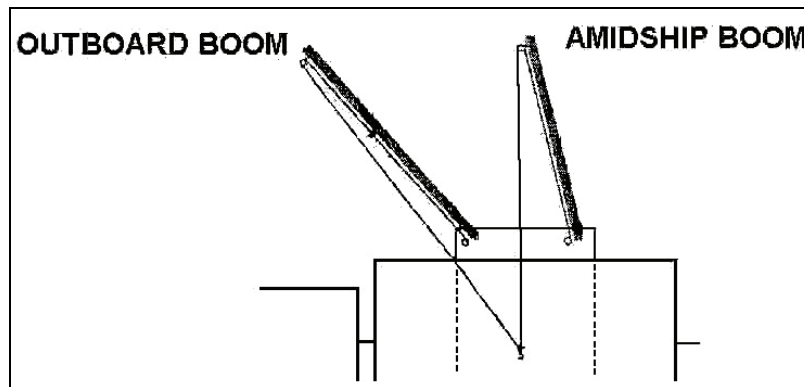

Figure 3-111. Rigging of Yard-and-Stay Rig
1. Supervise the rigging of a yard-and-stay rig (see Figure 3-111).